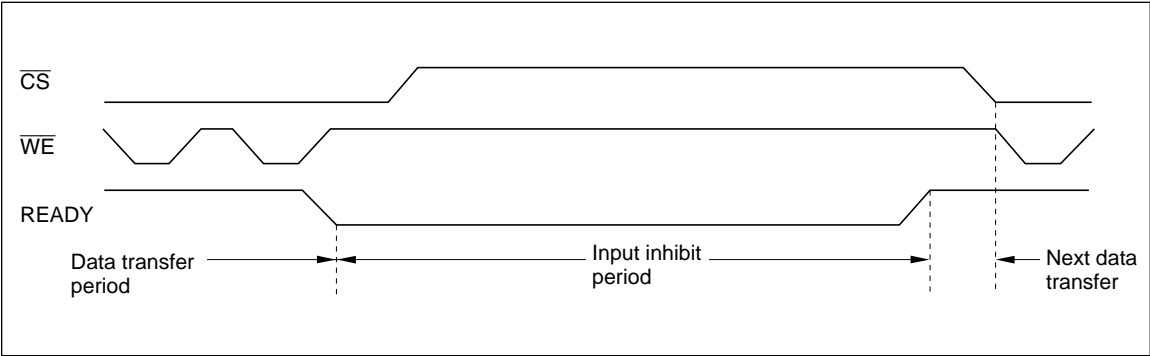

Figure 14 READY Output Timing (When It Is Always Available)
- a. READY is always available (figure 14).